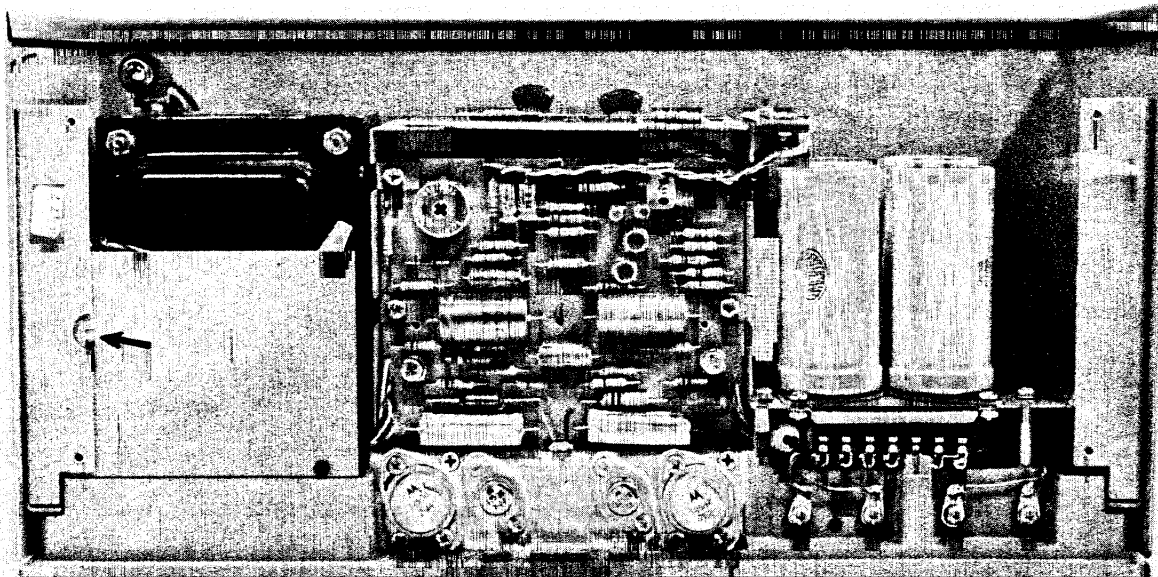

Figure 4-2 SE400S SIDE VIEW
1.5.2.1 SE400S — remove the four mounting feet, then take off the bottom and front panel. FIG. 4-2.
Note: Interlock can be defeated by wedging a toothpick or similar non-metallic object in opening illustrated in figure 4-2.